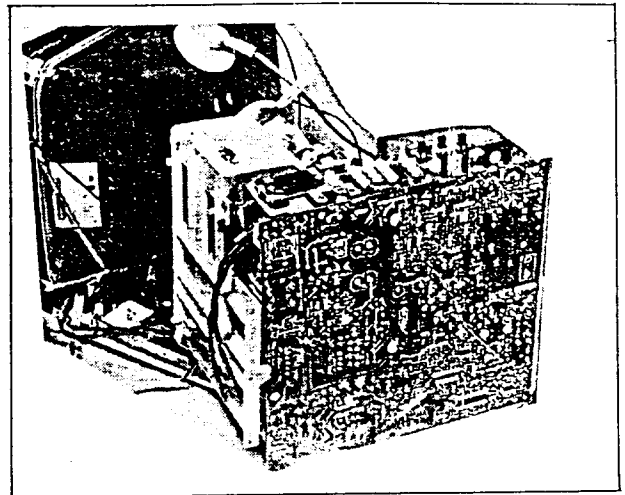

FIG. 6
- * When conducting a check with power supplied, be sure to confirm that the CRT earth wire is connected to the CRT socket board and the chassis (Fig. 6).